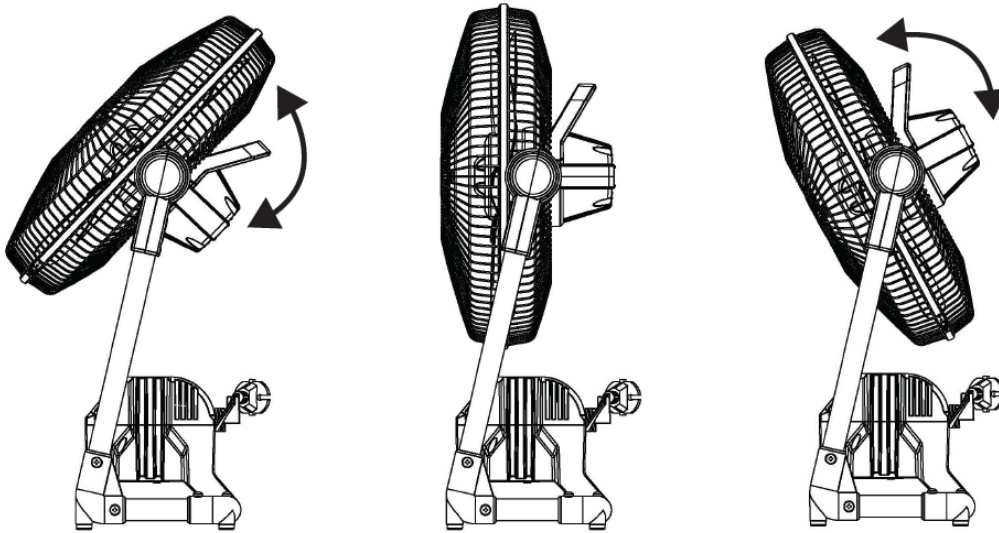

Fig. 3
- To adjust the fan angle vertically, push or pull the fan handle gently. (See Fig 3)